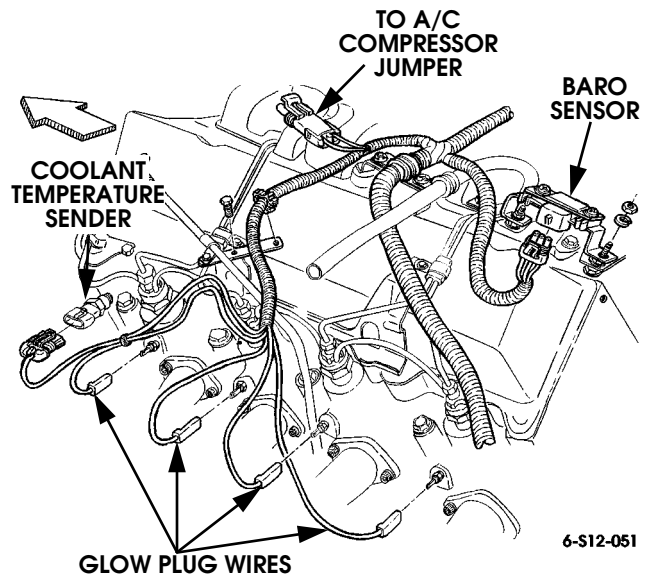

Figure 12-53: Engine Harness Connections at Driver's Side (Non-Turbo Shown)
- baro sensor (Figure 12-53)
- glow plug wires and coolant temperature sensor (Figure 12-53)